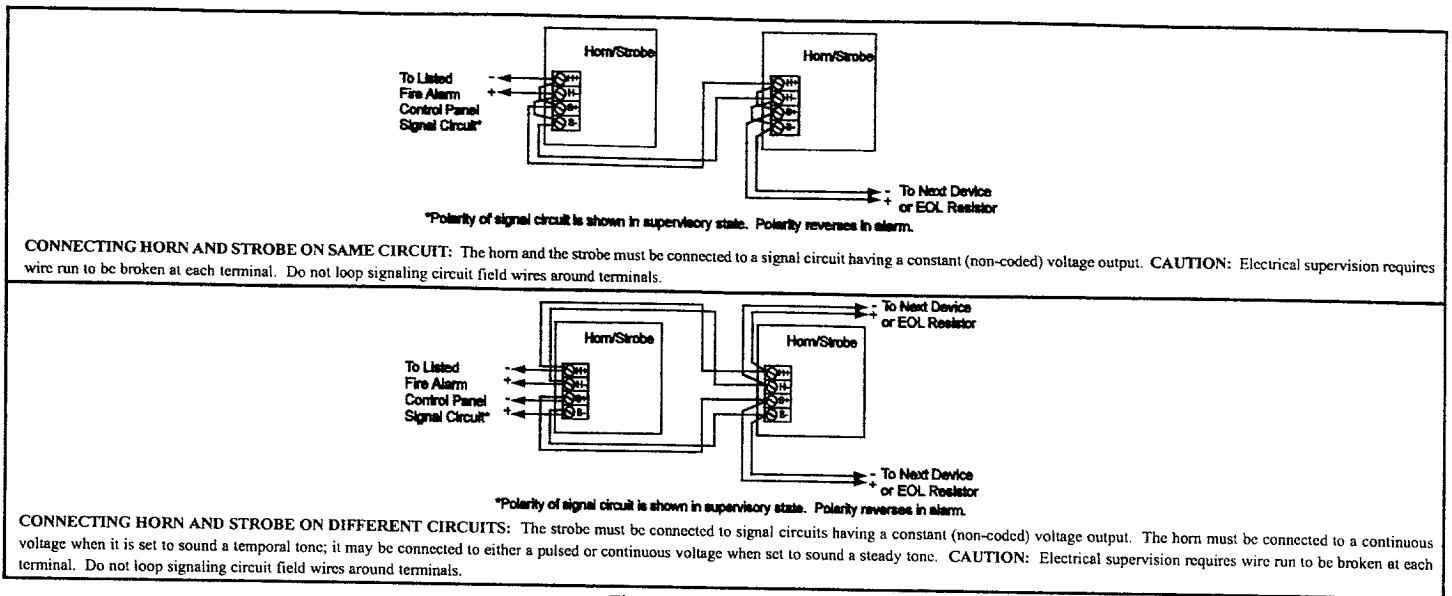

Figure 4. Wiring Diagrams
5. Connect the signaling circuit field wires to the terminal block on the horn/strobe (Figures 4 and 5). For additional wiring connection details, see the applicable instructions supplied with the signaling modules or circuits used in the fire alarm control panel.